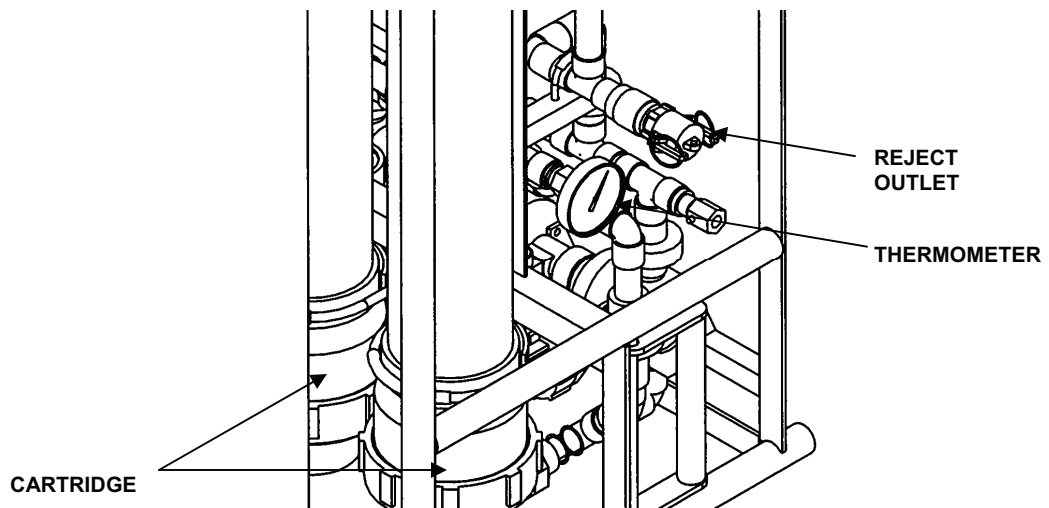

Figure 5. Ultrafiltration Module Temperature Gauge.
1. Temperature gauge is located below the reject outlet. See Figure 5.